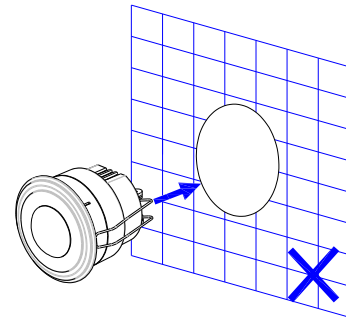

FIGURE 1
- This unit cannot be installed on the wall. (FIGURE 1)